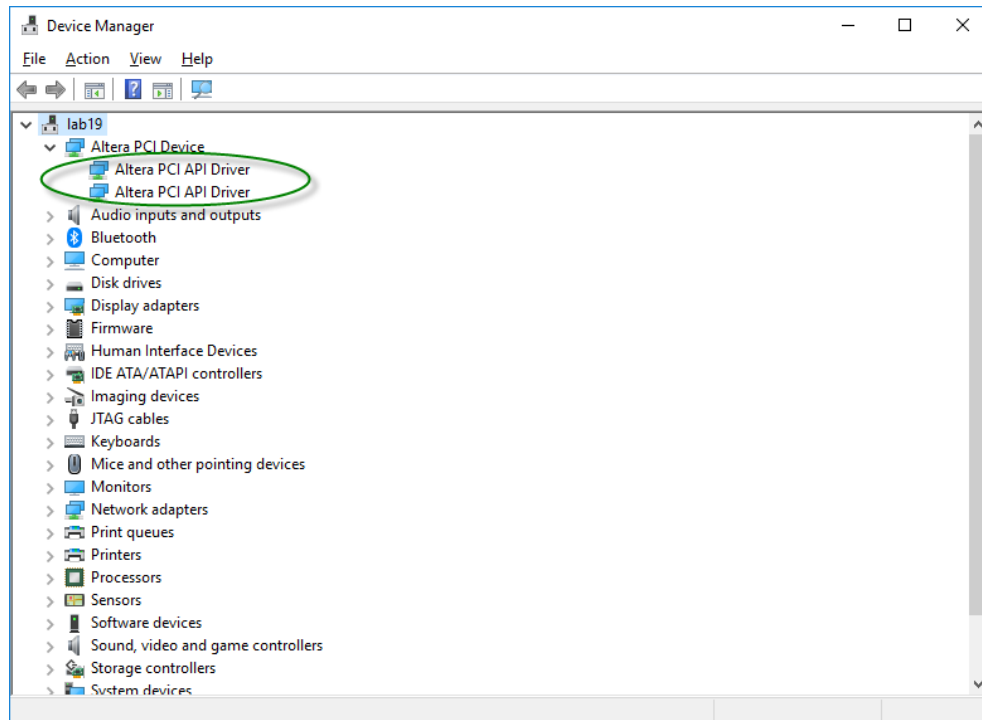

Figure 7-26 Screenshot of two FPGA PCIe devices are detected
6. Make sure there are two Altera PCI API drivers are enumerated by checking the Windows Control panel as shown in **Figure 7-26**.